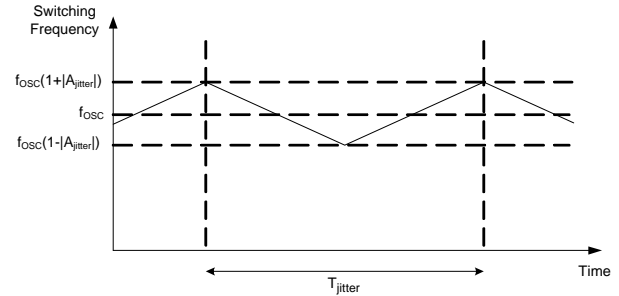

Figure 3: Frequency Jittering
An internal capacitor is charged with a controlled current source, which is fixed when  $FB > 2V$ , and its voltage is compared with the TIMER voltage. The TIMER voltage is a triangular wave between 2.8V and 3.2V with a charging/discharging current (see Figure 3). The switching frequency can be calculated using Equation (1):